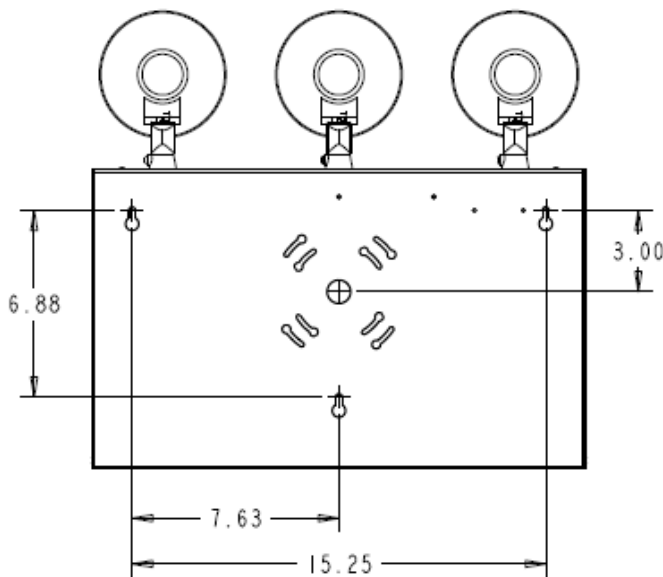

Figure 1
- 1) Begin the installation process by securing the unit less battery. Three slotted vertical keyway knockouts in the housing (see Figure 1) are to be used to attach the housing to independent anchor supports. Use three ¼" toggle bolts (supplied by others) to secure the unit to drywall. If mounting to hollow concrete masonry, a minimum of two toggle bolts must be used. When using wall recessed wiring, The slotted, circular keyways can be used to secure the housing to a standard junction box for wiring purposes only. Run the wires through center hole of housing in preparation for unit wiring. For surface conduit wiring, there are a total of six knockouts which can be used for service entrance and exit.